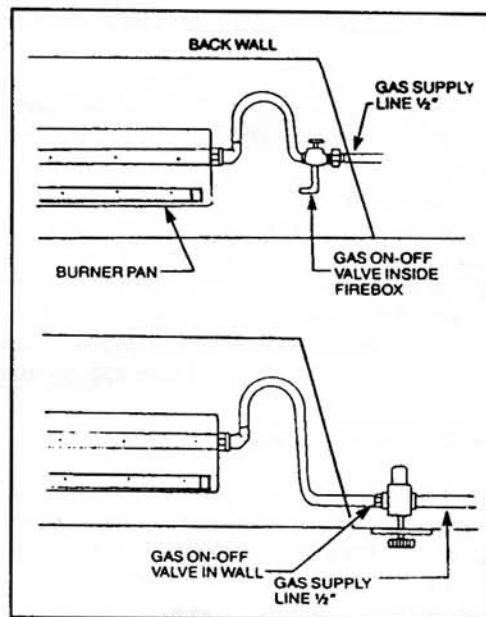

Figure 4. Gas line installation — Masonry fireplace.
- F. **Masonry fireplaces.** A 1/2 inch gas supply line must be provided to the firebox. Most installations require drilling an access hole through the masonry wall. The supply line should be secured and sealed by mortar within the access hole. The supply line should also have an on-off valve either in the wall or inside the fireplace. (See Figure 4.)